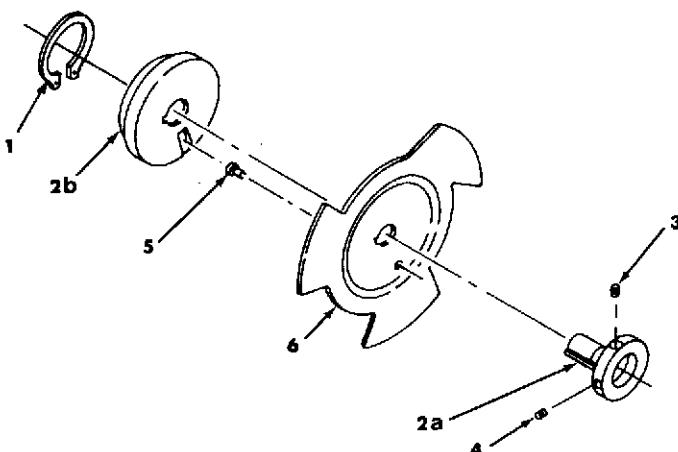

Figure 3-13. SHUTTER AND CAM ASSEMBLY
- a. Loosen collar (18) then (30) for easy removal of ring (16).
**1. Shutter and Cam Assembly (Fig.3-13)**
- a. Press ring (1) on hub (2a), allowing no end play on cam (2b).